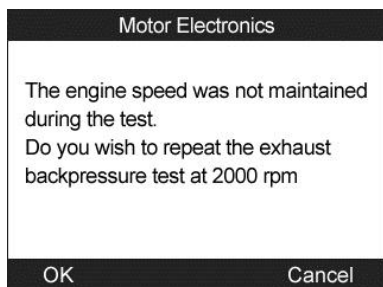

Figure 13-43
- If the engine is not running at 2000 rpm, the tool will display a warning message. (Figure 13-43) Select **OK** to repeat the test or select **Cancel** to exit.